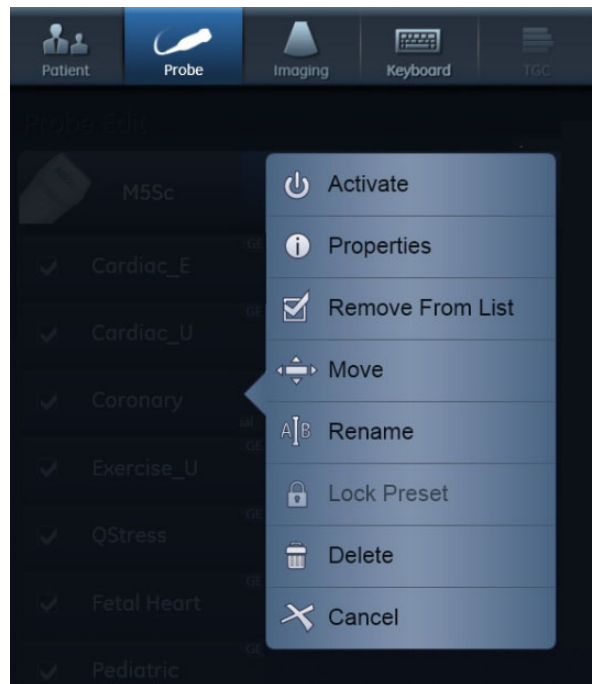

Figure 12-67. The Preset config menu
3. Press an application preset to adjust. The *Preset config* menu is displayed (Figure 12-67).
A preset configuration menu appears (Figure 12-67).
The *Preset config* menu is displayed (see Figure 12-67 on *page 12-89*).